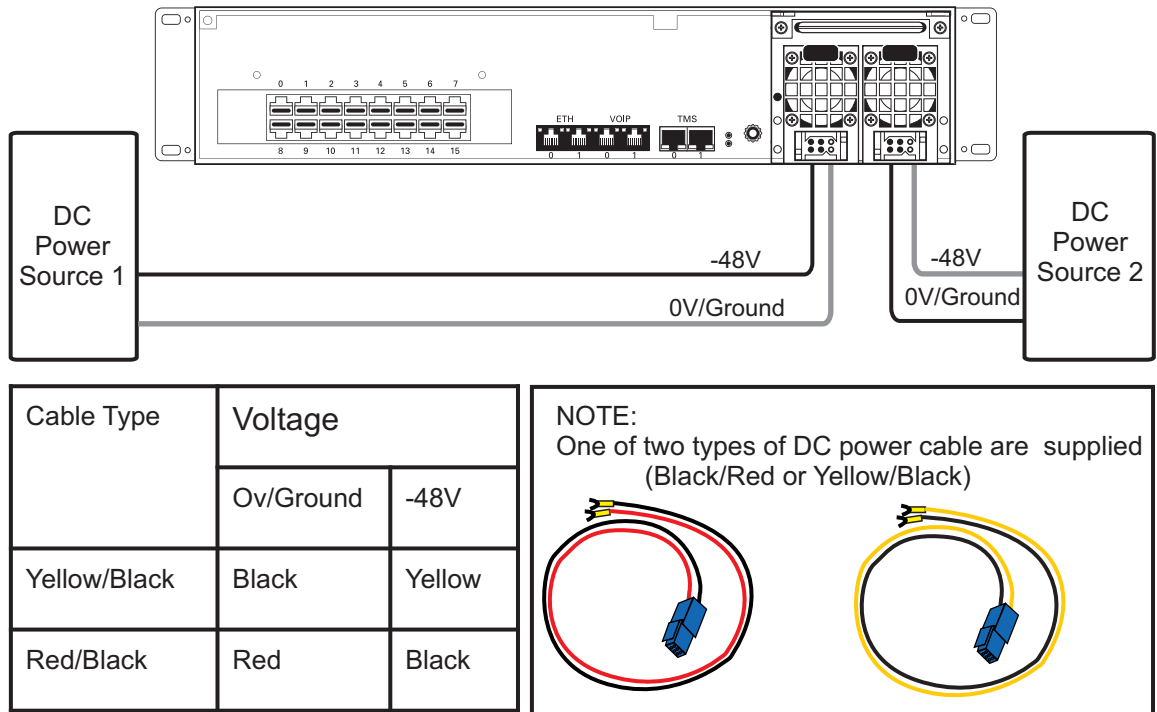

Figure 2.9 3200 Series Gateway DC Wiring Diagram
1. Connect one DC cable, supplied with the 3200 series gateway, as shown in figure 2.9 on page 26, to the rear of the unit.
Note Two types of cable with different coloring are available. Refer to figure 2.9 on page 26 for the appropriate wiring information.